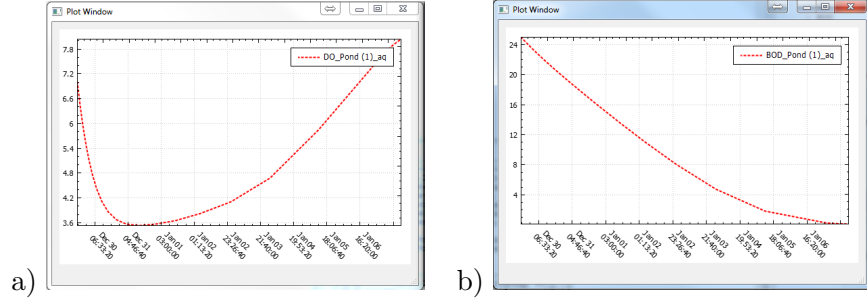

Figure 4.16: Temporal variation of a) DO and b) BOD in the simple batch test with aeration example
11. **Inspecting the results:** Right-click on the block identified as **Pond (1)** and choose **Plot Water Quality Results**→**DO**. Similarly check the BOD results. The graphs should look like figure 4.16.